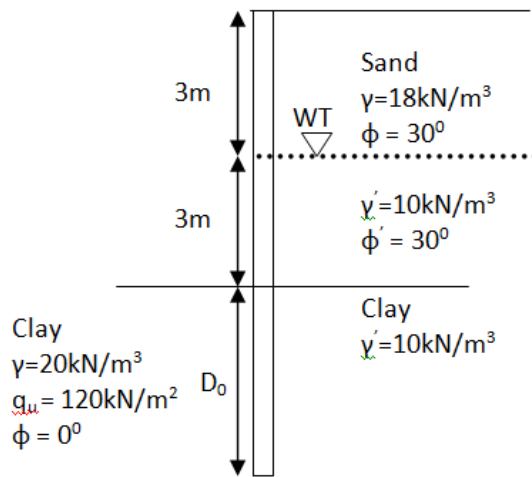

Fig Q2b.Cantilever sheet piling
- b. Compute the depth of embankment for the cantilever sheet piling system shown in the Fig.Q2b. 10